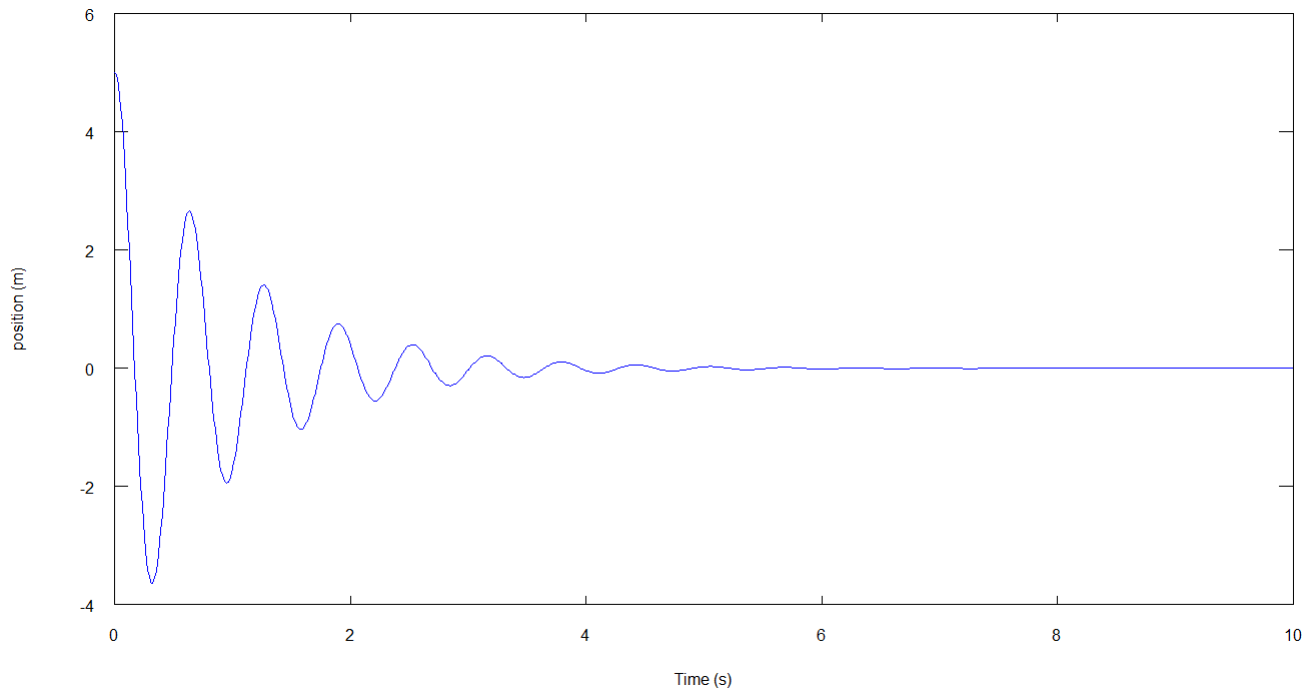

Figure 7: Position vs. Time for Mass-Spring-Damper system
- ✦ Run the simulation and plot the position vs time data. Notice that all the oscillations are clearly represented with ample data points present in Figure 7.